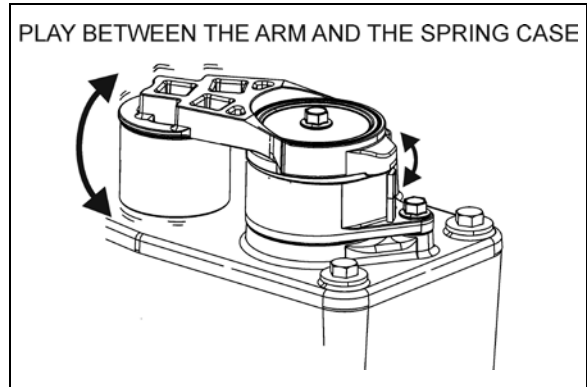

FIGURE 22: CHECKING BUSHING WEAR
2. Pry the automatic belt tensioner arm and check for a play between the arm and the spring case (FIGURE 22).